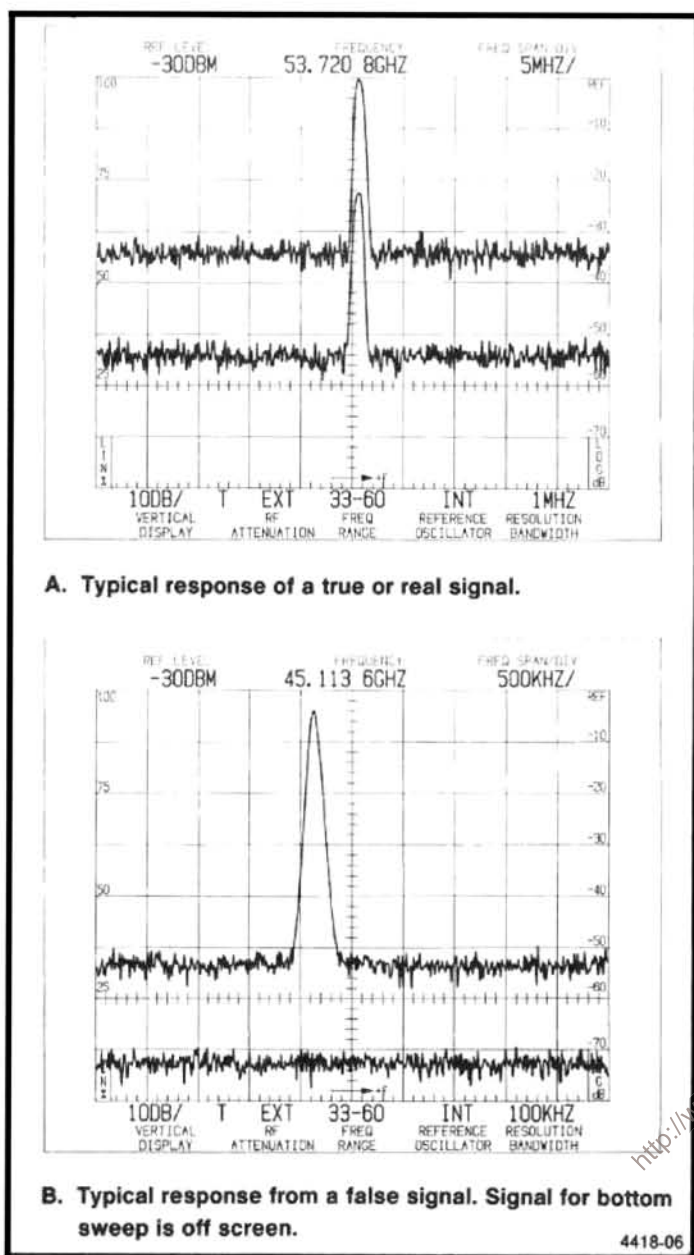

Figure 4-2. Typical display with SAVE A on to observe IDENTify mode.
(1) With the 500 MHz marker tuned to center frequency, decrease the FREQ SPAN/DIV to 50 kHz or less and press IDENT.
(2) Note that there is no horizontal displacement of the 500 MHz signal on alternate sweeps. To help determine if the signal is true or false, decrease the sweep rate or activate SAVE A, with both VIEW A and VIEW B on, so a comparison is easily observed (see Figure 4-2).
(3) Switch IDENT off.